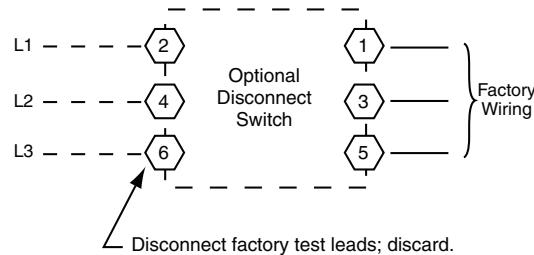

Fig. 21 — Power Wiring Connections
on compressor contactor C and indoor fan contactor IFC (see wiring diagram label for control box component arrangement) or at factory-installed option non-fused disconnect switch. Max wire size is #2 AWG (copper only). See Fig. 21 and unit label diagram for field power wiring connections.
Assemble the shaft and handle to the switch at this point. Discard the factory test leads (see Fig. 21).
All field wiring must comply with NEC and all local codes. Size wire based on MCA (Minimum Circuit Amps) on the unit informative plate. See Fig. 21 and the unit label diagram for power wiring connections to the unit power terminal blocks and equipment ground. Maximum wire size is #2 ga AWG (copper only) per pole on contactors.
2. Install power lines to terminal connections as shown in Fig. 21.